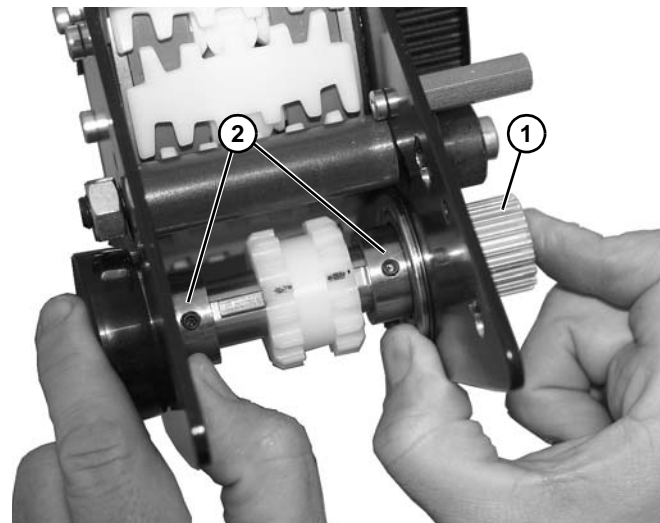

Figure 157
1. Install drive shaft (**Figure 157, item 1**) on two bearings (**Figure 157, item 2**) and press outward as shown.